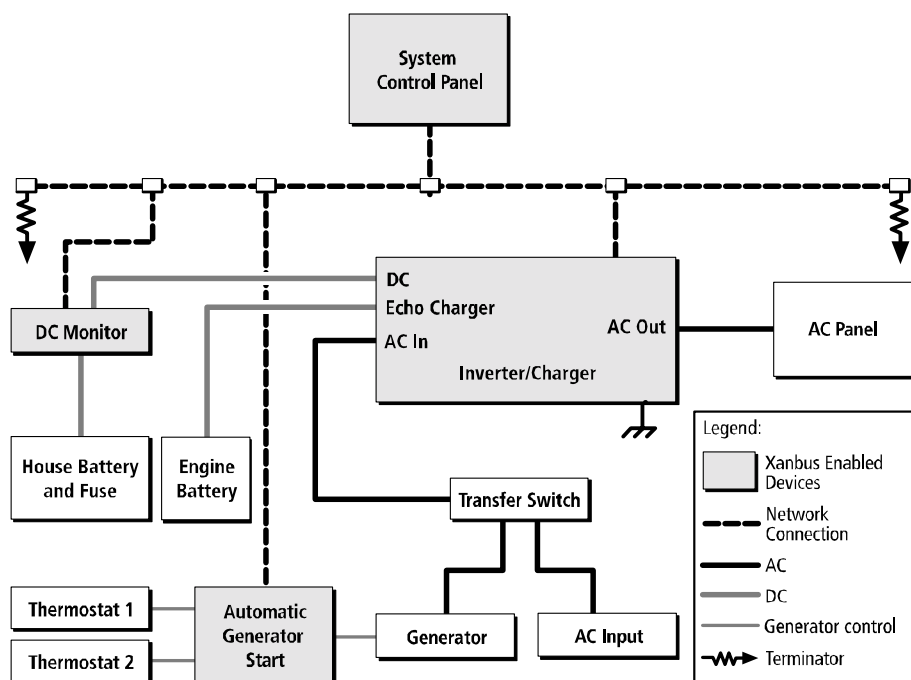

Figure 1 Typical Xanbus System Diagram
The Xanbus system includes the MS2000 Sine Wave Inverter/Charger and other Xanbus-enabled devices, as shown in Figure 1, “Typical Xanbus System Diagram”. Each Xanbus-enabled device interacts and communicates with the other devices on the network, creating a power system that can be precisely configured to your needs.
In Figure 1, network connections are represented by dotted lines and conventional electrical connections are represented by solid lines. No attempt has been made to show polarity of electrical connections. Your system requirements may be more complex than the basic installation shown in Figure 1. Xantrex recommends that you consult a qualified installer or electrician to customize your installation to meet your requirements.
- Cables, connectors, network connectors, and terminators for the System Control Panel and Automatic Generator Start, if installing. See Figure 1.